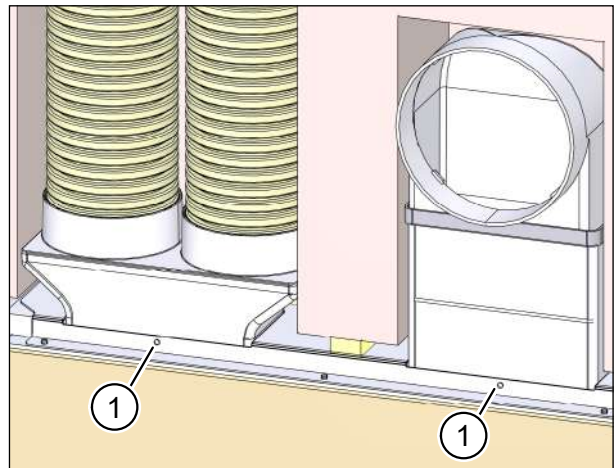

Fig. 59: Fixing the connections for flat ductwork / flexible pipe to the wall box
There are two holes (item 1 in Fig. 59) in the plastering trim for fixing the flat ductwork or flexible pipe connections to the wall box with blind rivets if necessary. These holes will also need to be drilled in the flat ductwork or flexible pipe connections.
- ▶ Use the 3 mm drill bit to drill through the holes in the plastering trim (item 1 in Fig. 59) and into the flat ductwork or flexible pipe connections.